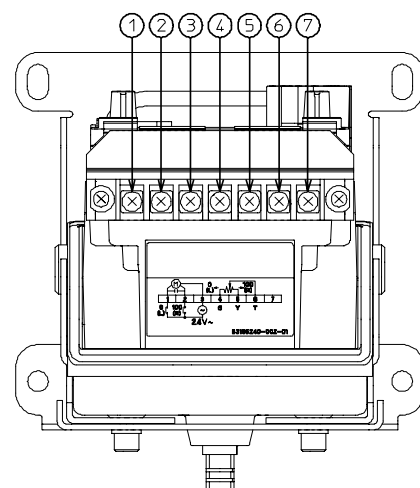

Figure 4. Layout of the terminal block with the cover removed
- 1) Never apply a voltage higher than 5 V to the terminals ④, ⑤ and ⑥. (See Fig. 4.)
- 4) Wiring is connected to the terminals (M3.5 screws) of the control motor. Connect the wires by referring to the layout of the terminal block shown in Fig. 4, the wiring terminal diagrams shown in Figs. 10 to 14, and the examples of wiring connections shown in Figs. 15 to 18.